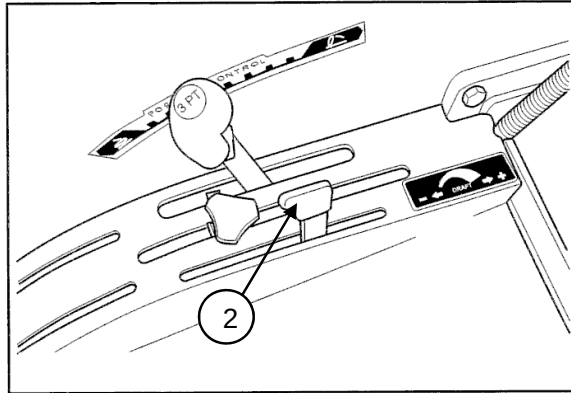

Figure 2-49
When operating in draft control, the draft control lever (2) in Figure 2-49, used to adjust sensitivity to draft loads. Once the lever is positioned, the hydraulic lift system will automatically adjust the depth of the equipment to maintain an even load on the tractor as soil conditions vary. The hydraulic system senses draft changes through changes in upper link compression. The operation of the upper link draft sensing system is described in the following paragraph.